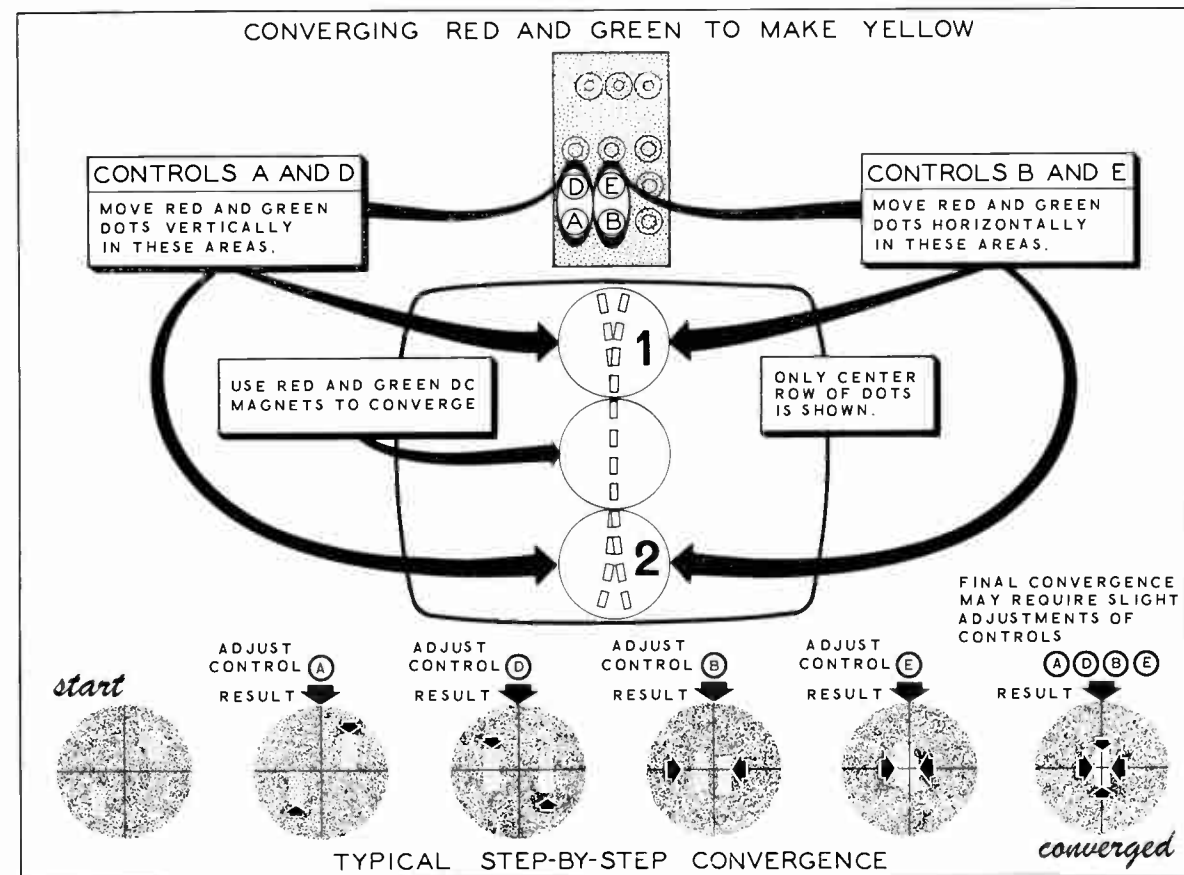

FIGURE 1-22A
- Refer to Figure 1-22A (fold-out from Page 78).